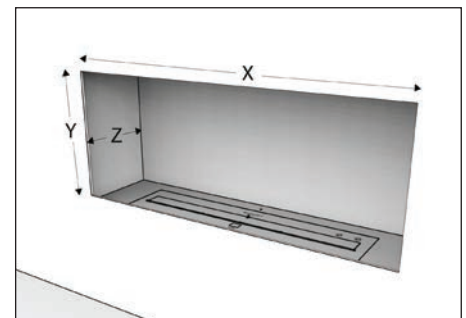

Fig.1
A. DIMENSIONES DE LA CAJA DE COMBUSTION PARA UNA INSTALACION "EN UNA CHIMENEA O PARRILLA" (Fig.1)